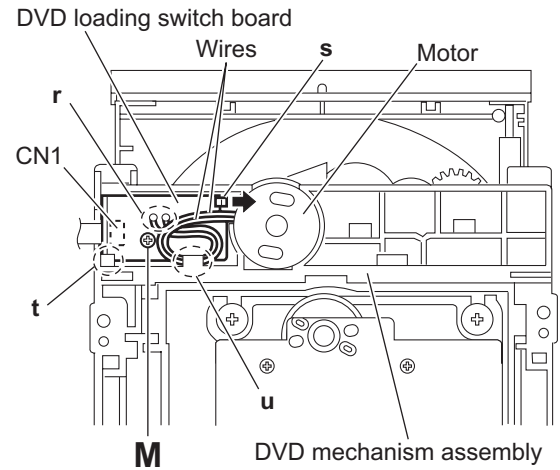

Fig.17
3.2.11 Removing the DVD loading switch board (See Fig.17)
3.2.12 Removing the motor (See Figs.17 and 18)
- (1) From the bottom side of the DVD mechanism assembly, remove the wires from the soldered sections **r** on the DVD loading switch board. (See Fig.17.)